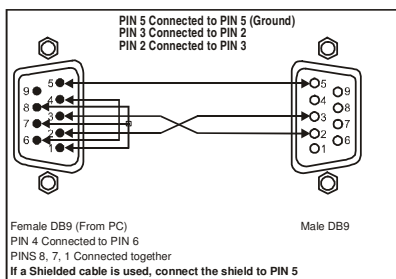

Figure 5: Connecting a PC without using a Null-modem Adapter
- Connect the RS-232 DB9 port on your PC to the RS-232 DB9 rear panel port on the **VS-828**, as Figure 5 illustrates